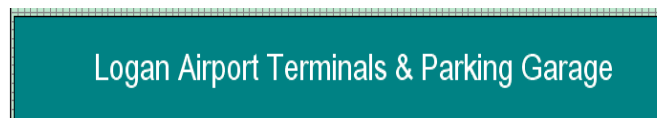

Figure 5.12
4. Back on the GraphWorX32 display select both the text and the rectangle by holding down the **Shift** button while selecting, we are going to group the two objects together so they will act as a **Symbol**. After selecting both objects click the  button located on the **Arrange** toolbar to group them into a symbol. This symbol should look like **Figure 5.12**.